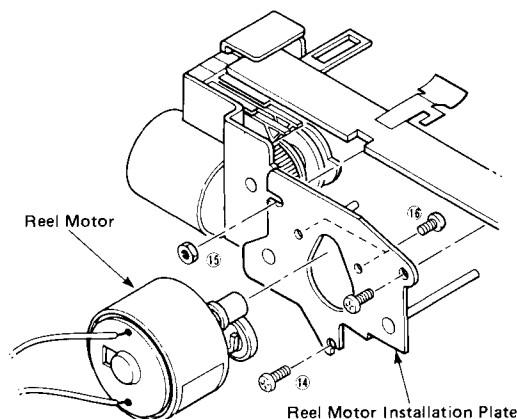

Fig. 9
- Remove 2 screws ⑭ and nuts ⑮ in Fig. 9 and remove the reel motor installation plate.
- Remove 2 screws ⑯ in Fig. 9 and replace the reel motor.